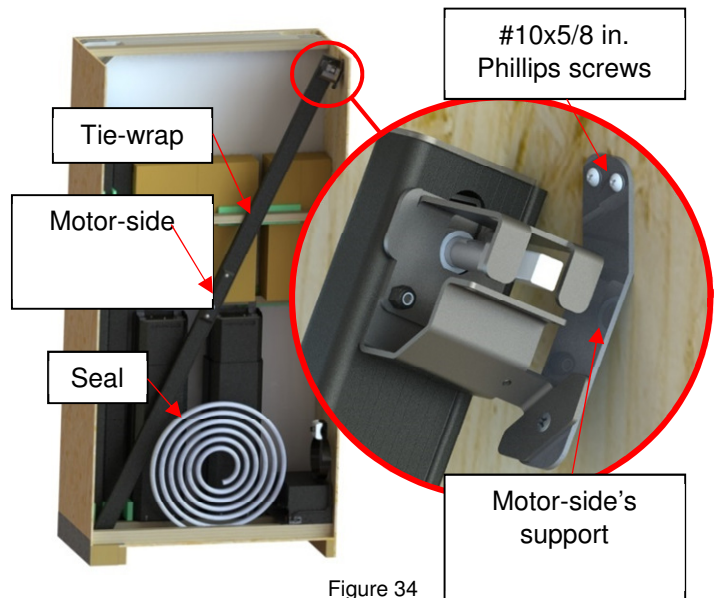

Figure 34
6) Remove the seal, the foam spacers and the optional part box, either the tub mounting or the ground anchoring hardware, from the bottom of the crate and place them in a safe place. (Figure 34)
7) Unscrew the two #10 x5/8 in. Phillips screws on the motor-side support, cut the tie wrap holding the long U-frame to the stud, remove the motor-side from the crate and place it in a safe place. (Figure 34)